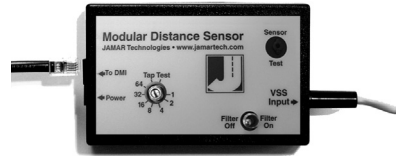

Fig. 5 – DMI Plug-in
5. Route the black DMI cable from the MDS to the desired instrument location. This will usually be routed between the doorpost and the dashboard. Make sure the cable will not be pinched when closing the door. If the instrument is going to be mounted to the front of the dashboard, you may want to bring the cable straight up the front of the dash. There is adequate cable length to allow mounting the DMI in any desired location inside the vehicle. Plug the cable into the MDS jack labeled *To DMI*, as shown in Figure 5. It does not matter which end of the cable is plugged into the MDS or DMI.